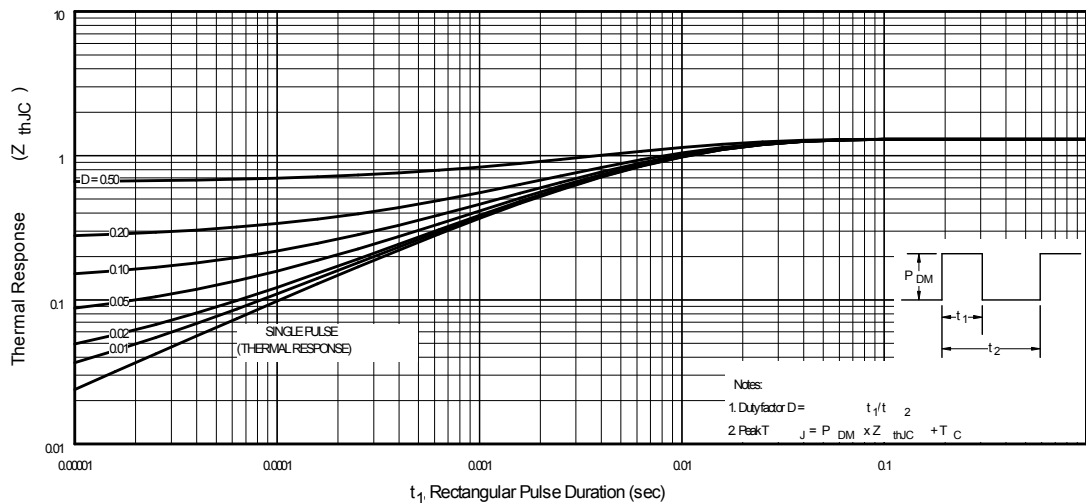

Fig 11. Maximum Effective Transient Thermal Impedance, Junction-to-Case
- ① Repetitive rating; pulse width limited by max. junction temperature. (See fig. 11)
- ② Limited by T_{Jmax} , starting $T_J = 25^\circ\text{C}$, $L = 0.45\text{mH}$, $R_G = 25\Omega$, $I_{AS} = 30A$, $V_{GS} = 10V$. Part not recommended for use above this value.
- ③ $I_{SD} \leq 30A$, $di/dt \leq 280A/\mu s$, $V_{DD} \leq V_{(BR)DSS}$, $T_J \leq 175^\circ\text{C}$.
- ④ Pulse width $\leq 1.0\text{ms}$; duty cycle $\leq 2\%$.
- ⑤ $C_{oss\text{ eff.}}$ is a fixed capacitance that gives the same charging time as C_{oss} while V_{DS} is rising from 0 to 80% V_{DSS}